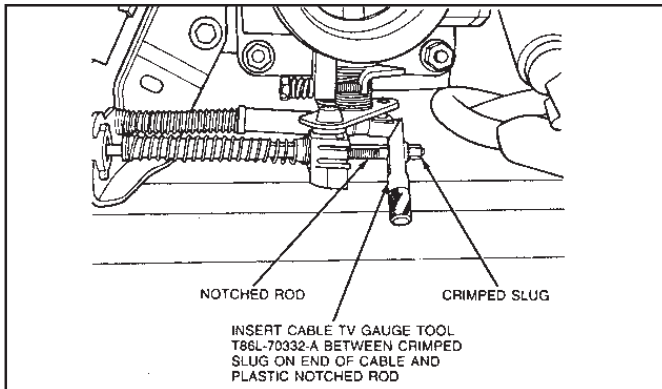

Figure 24
7.3 Insert tapered end of the tool between the crimped slug on the end of cable and plastic notched rod, also on end of cable assembly. Push in Cable TV Gauge Tool T86L-70332-A or equivalent forcing the crimped slug away from the plastic rod. Ensure gauge block is pushed in as far as it will go. **(See Fig. 24.)**